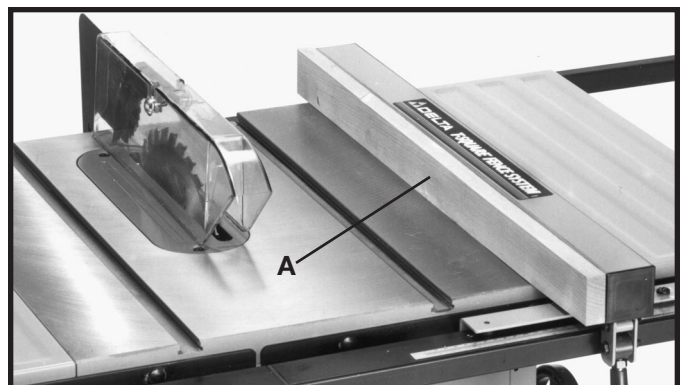

Fig. 59
It is necessary when performing special operations such as when using the moulding cutterhead to add wood facing (A) Fig. 59, to one or both sides of the rip fence, as shown. The wood facing is attached to the fence with wood screws through the holes provided in the fence. 3/4 inch stock is suitable for most work although an occasional job may require 1 inch facing.